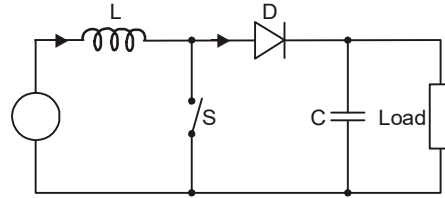

Fig. 5.12: Off-state (Boost converter)
- When the switch is opened (off-state), as shown in Fig. 5.12, the inductor current flows through the load. As it is Assumed that there is zero voltage drop in the diode, and a capacitor is large enough for its voltage to remain constant, the evolution of I_L is: